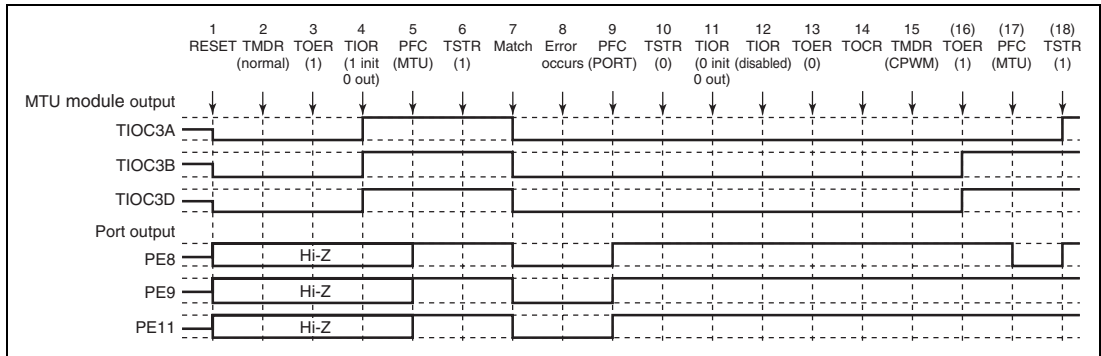

**Figure 11.89 Error Occurrence in Normal Mode, Recovery in Complementary PWM Mode**
**Operation when Error Occurs during Normal Mode Operation, and Operation is Restarted in Complementary PWM Mode:** Figure 11.89 shows an explanatory diagram of the case where an error occurs in normal mode and operation is restarted in complementary PWM mode after re-setting.
1 to 13 are the same as in figure 11.89.